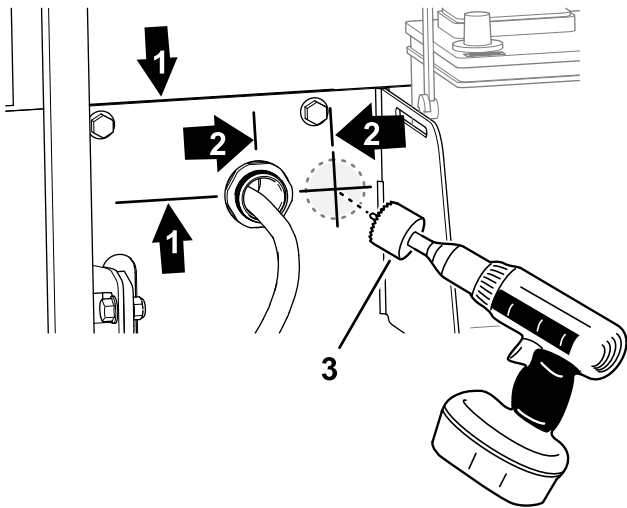

Figure 9
1. At the left side of the battery tray, measure 51 mm (2 inches) from the centerline of the hole for the battery cable and mark the radiator bracket (Figure 9).
2. Measure 64 mm (2-1/2 inches) from the top radiator bracket, and mark the bracket (Figure 9).
5. Drill a 38 mm (1-1/2 inches) hole in the bracket at the pilot hole (Figure 9).